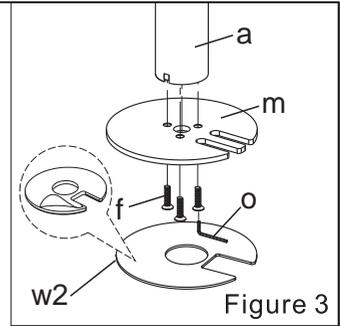

Figure 3
1. Install the Grommet Base Plate(m) to the Pole(a) with 3 pcs of M5x14 Bolts(f). Tighten the bolts with the Allen Key(o). See Figure 3.